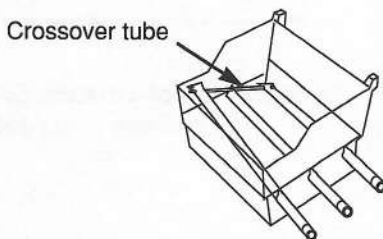

Figure 15
- g) Lift and twist the burner assembly slightly, to separate the crossover tube from the burners. Figure 15. Remove the burners from the cooking box.